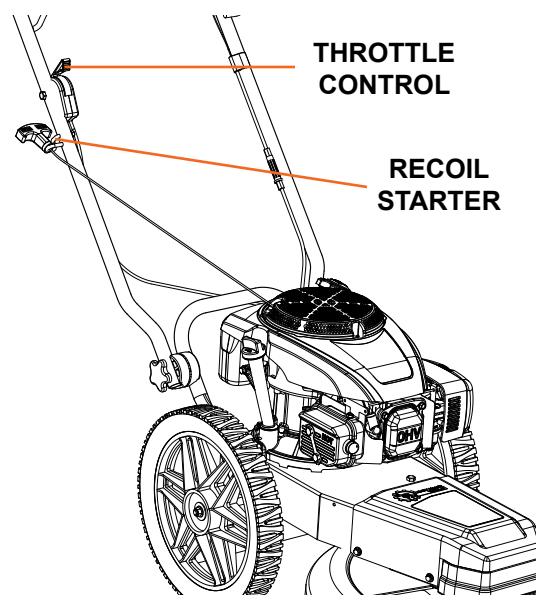

Figure 9
1. Push the throttle control lever on the right side of the handlebar (see Figure 9) all the way forward (choke position).
1. Move the throttle control lever (see Figure 9) all the way back past the SLOW position to the STOP position.